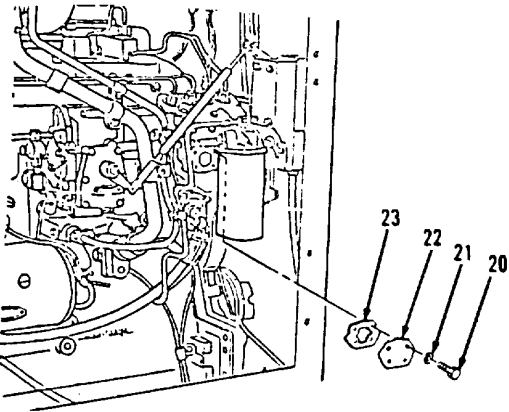

Figure 3-31.
- 39. Install new gasket (23), cover (22), four washers (21) and bolts (20, Figure 3-31) on fuel injection pump housing. Torque bolts to 20 ± 5 ft-lb.